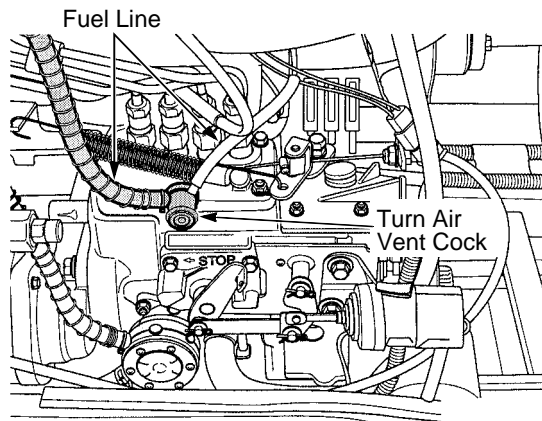

Figure 51
- Loosen the air vent cock on the injection pump two or three turns by hand, then start to turn the engine over. See Figure 51.
- Bleed the air from the fuel system using the air vent cock on the injection pump. Refer to Figure 51.
The condition of the fuel line hoses and clamps should be checked every 100 hours or six months (whichever occurs first), and they should be replaced every two years. Refer to Figure 51.